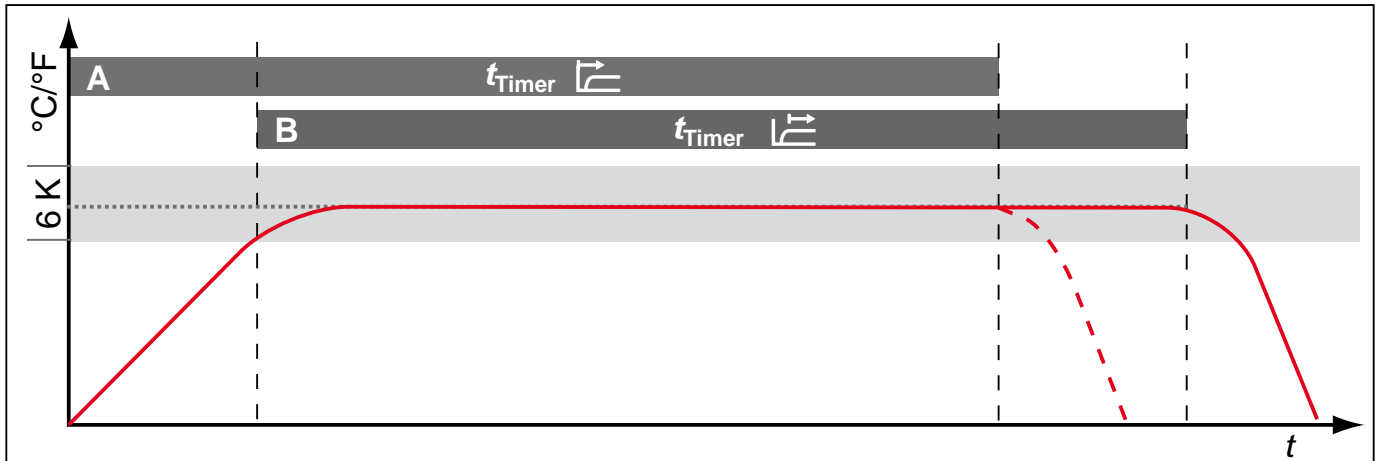

Fig. 20 Timer Mode
For universal ovens UN/UF and incubators IN/IF, you can choose if the timer (see page 24) should run setpoint-dependent or not – this determines if the timer should not start until a tolerance band of  $\pm 3$  K around the set temperature is reached (Fig. 20, B) or if it should start right after activation (A).